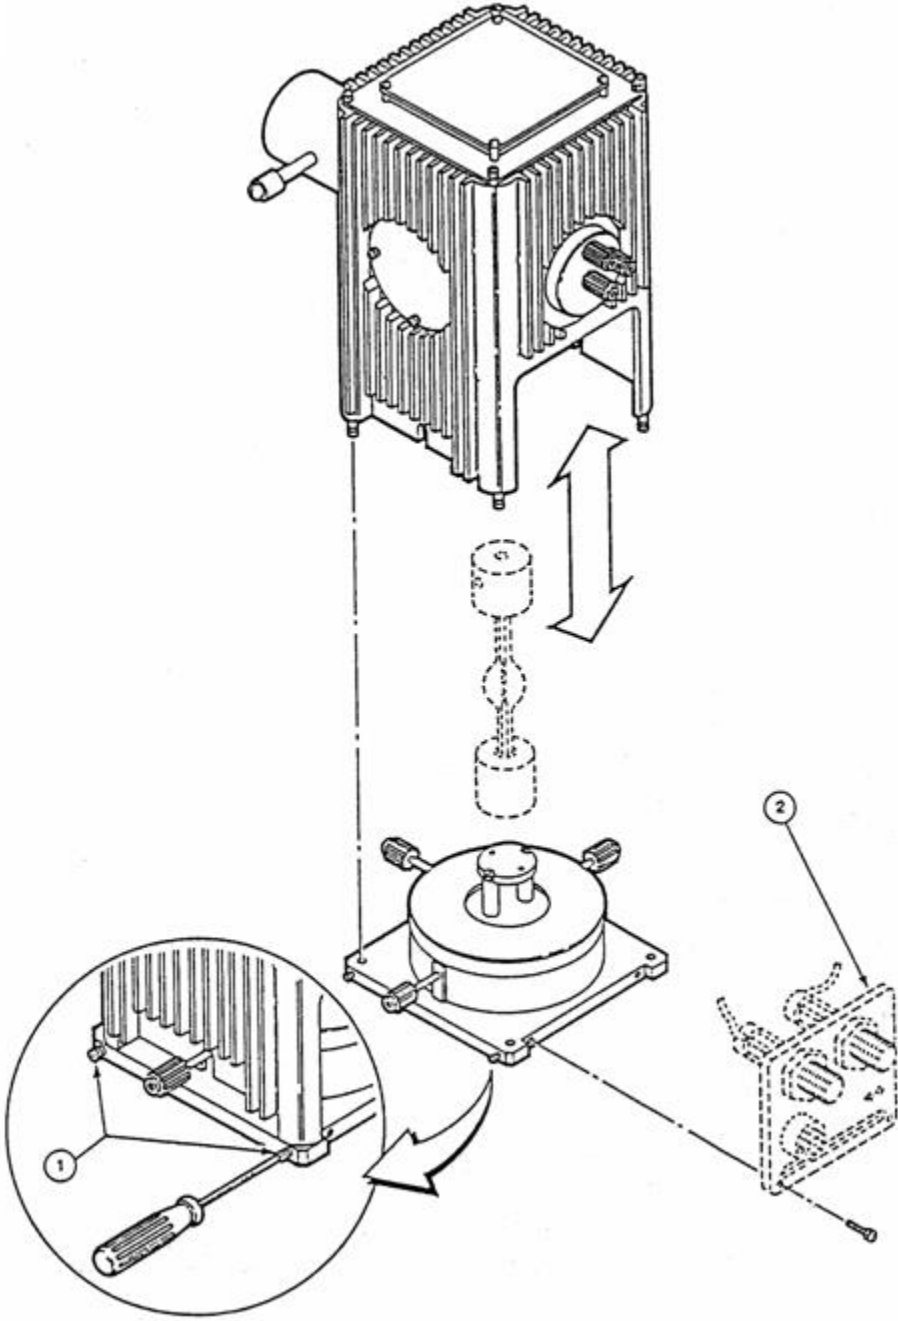

Figure 5 : Mounting Arc Lamp Interface to Series Q Housing
All kits have interface plates similar to the legacy model 60010 shown in Figure 5 for arc lamps; they are mounted as follows:
1. Partially loosen the (4) retaining screws, #1, and remove the upper housing shell by sliding it upward.
2. Secure the interface plate, #2, with the (2) socket head cap screws in the recess of the base, as shown in Figure 5.
(See Figure 5)